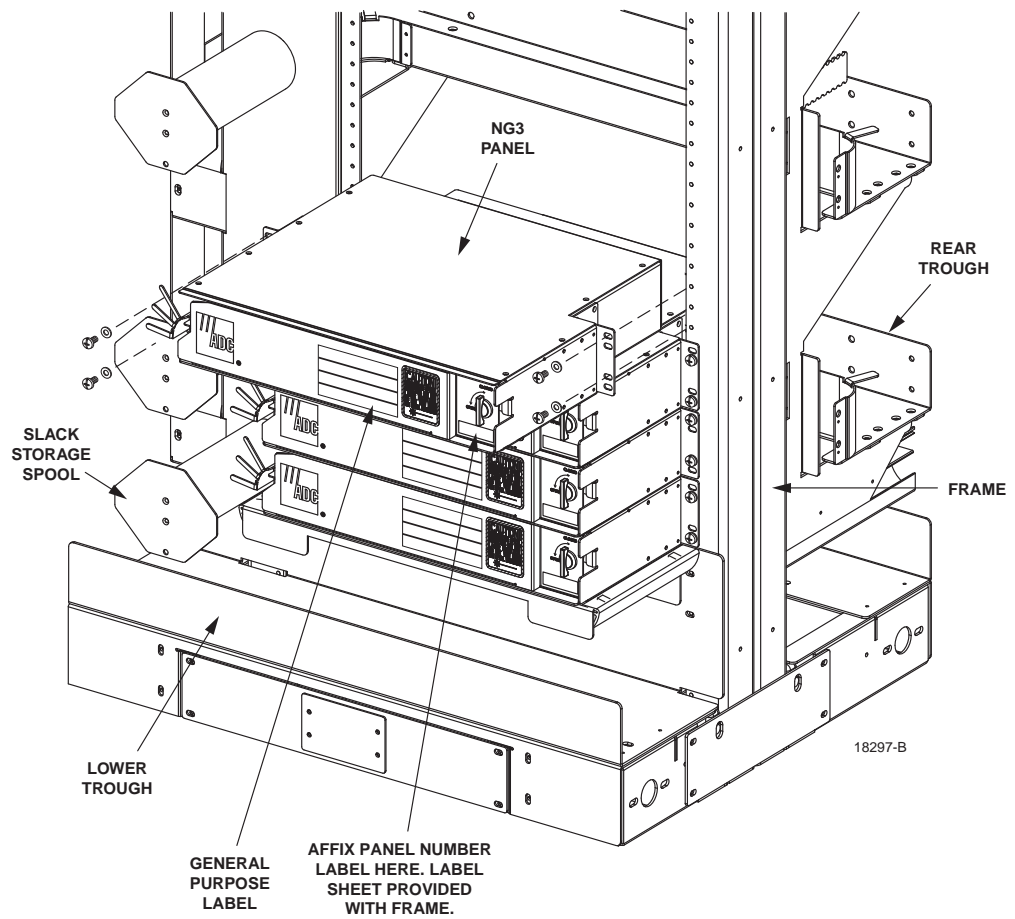

Figure 14. Mounting the Panel on the Frame
2. Align the mounting holes in the panel with the mounting holes in the frame as shown in Figure 14.